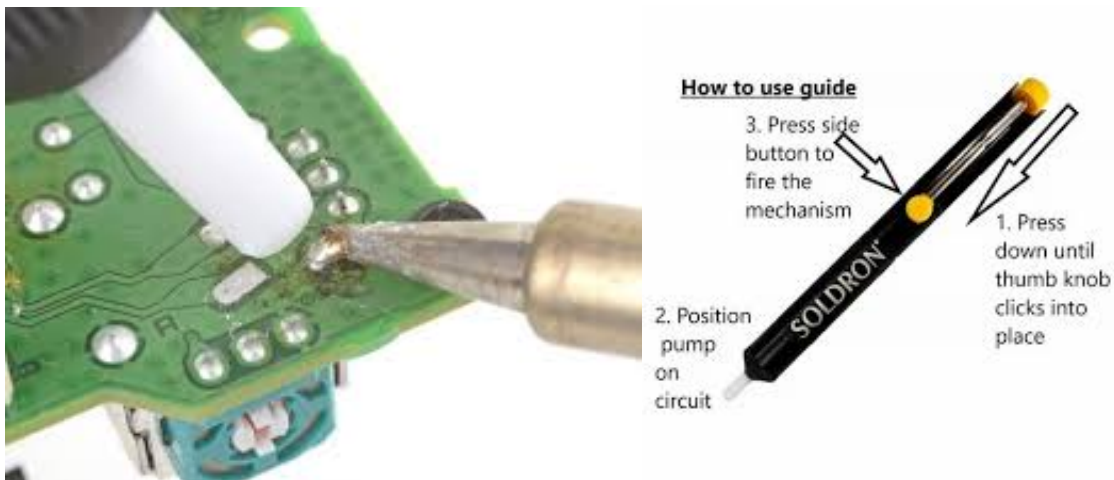

Fig. 27.5 De-Soldering Pump.
- Press and release the plunger to suck up the solder (As per the Fig 27.5).